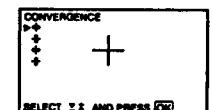

Fig. 3
- 1 Select "CONVERGENCE" with Δ + or ∇ – and press OK. The CONVERGENCE menu appears. (See Fig. 3.)